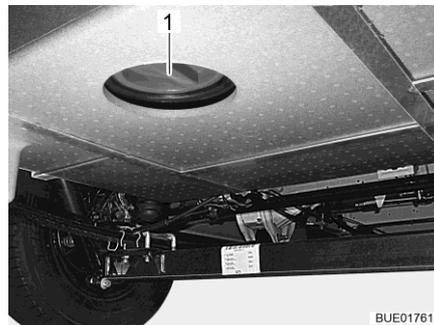

Fig. 279 Cleaning opening (waste water tank)
- Open the cleaning opening (Fig. 279,1) on the waste water tank and the drain cock.